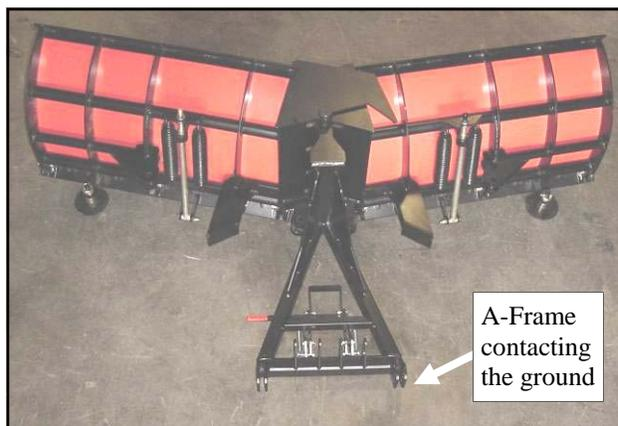

Fig. 2.2 (view from back side)
2.2 Per fig. 2.2, tip the entire assembly back 90 degrees so the A-Frame contacts the ground as shown.